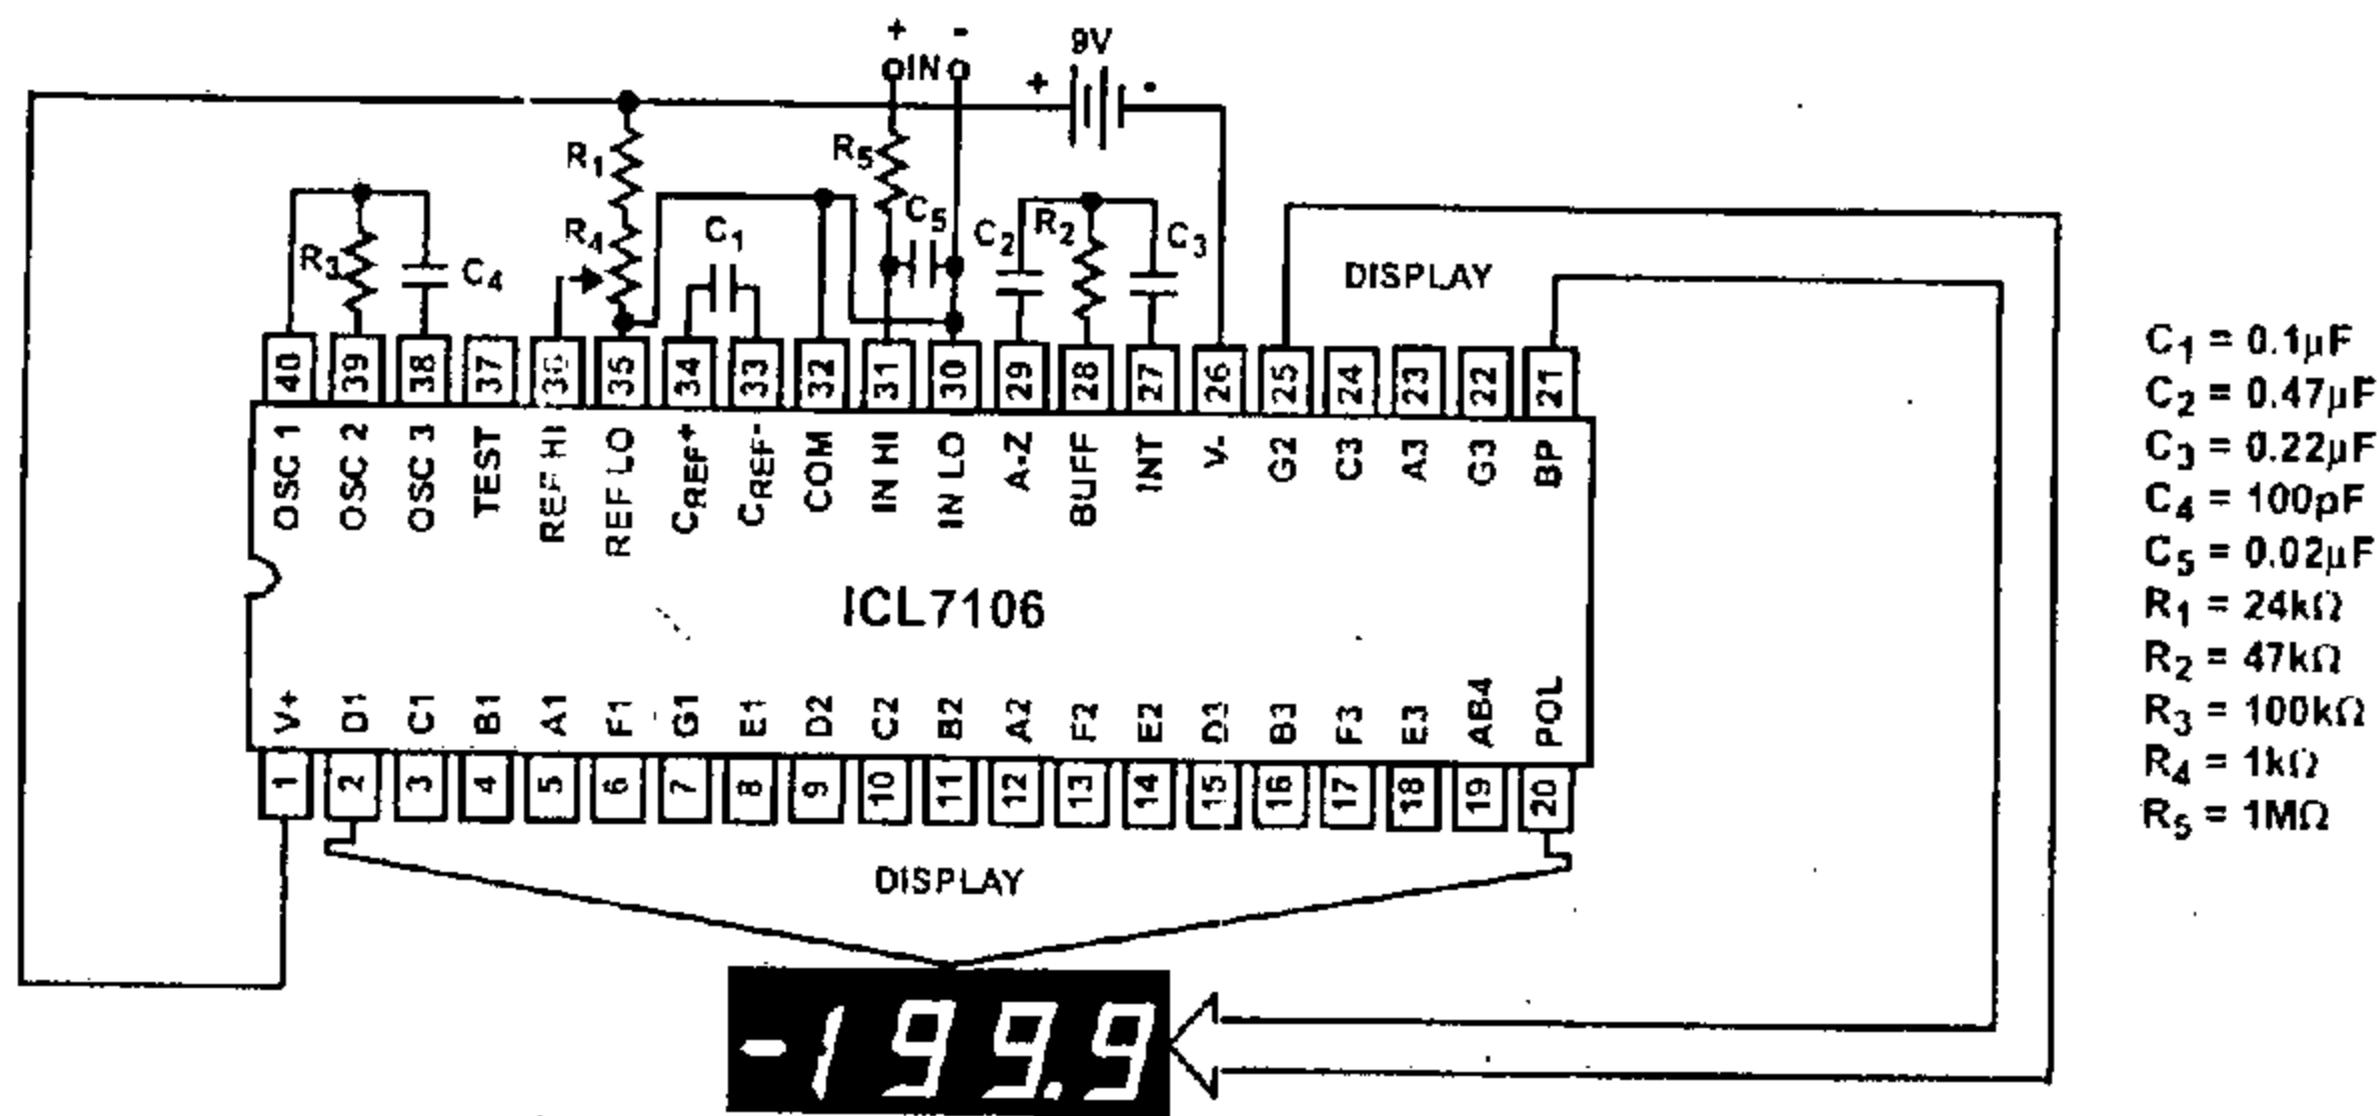
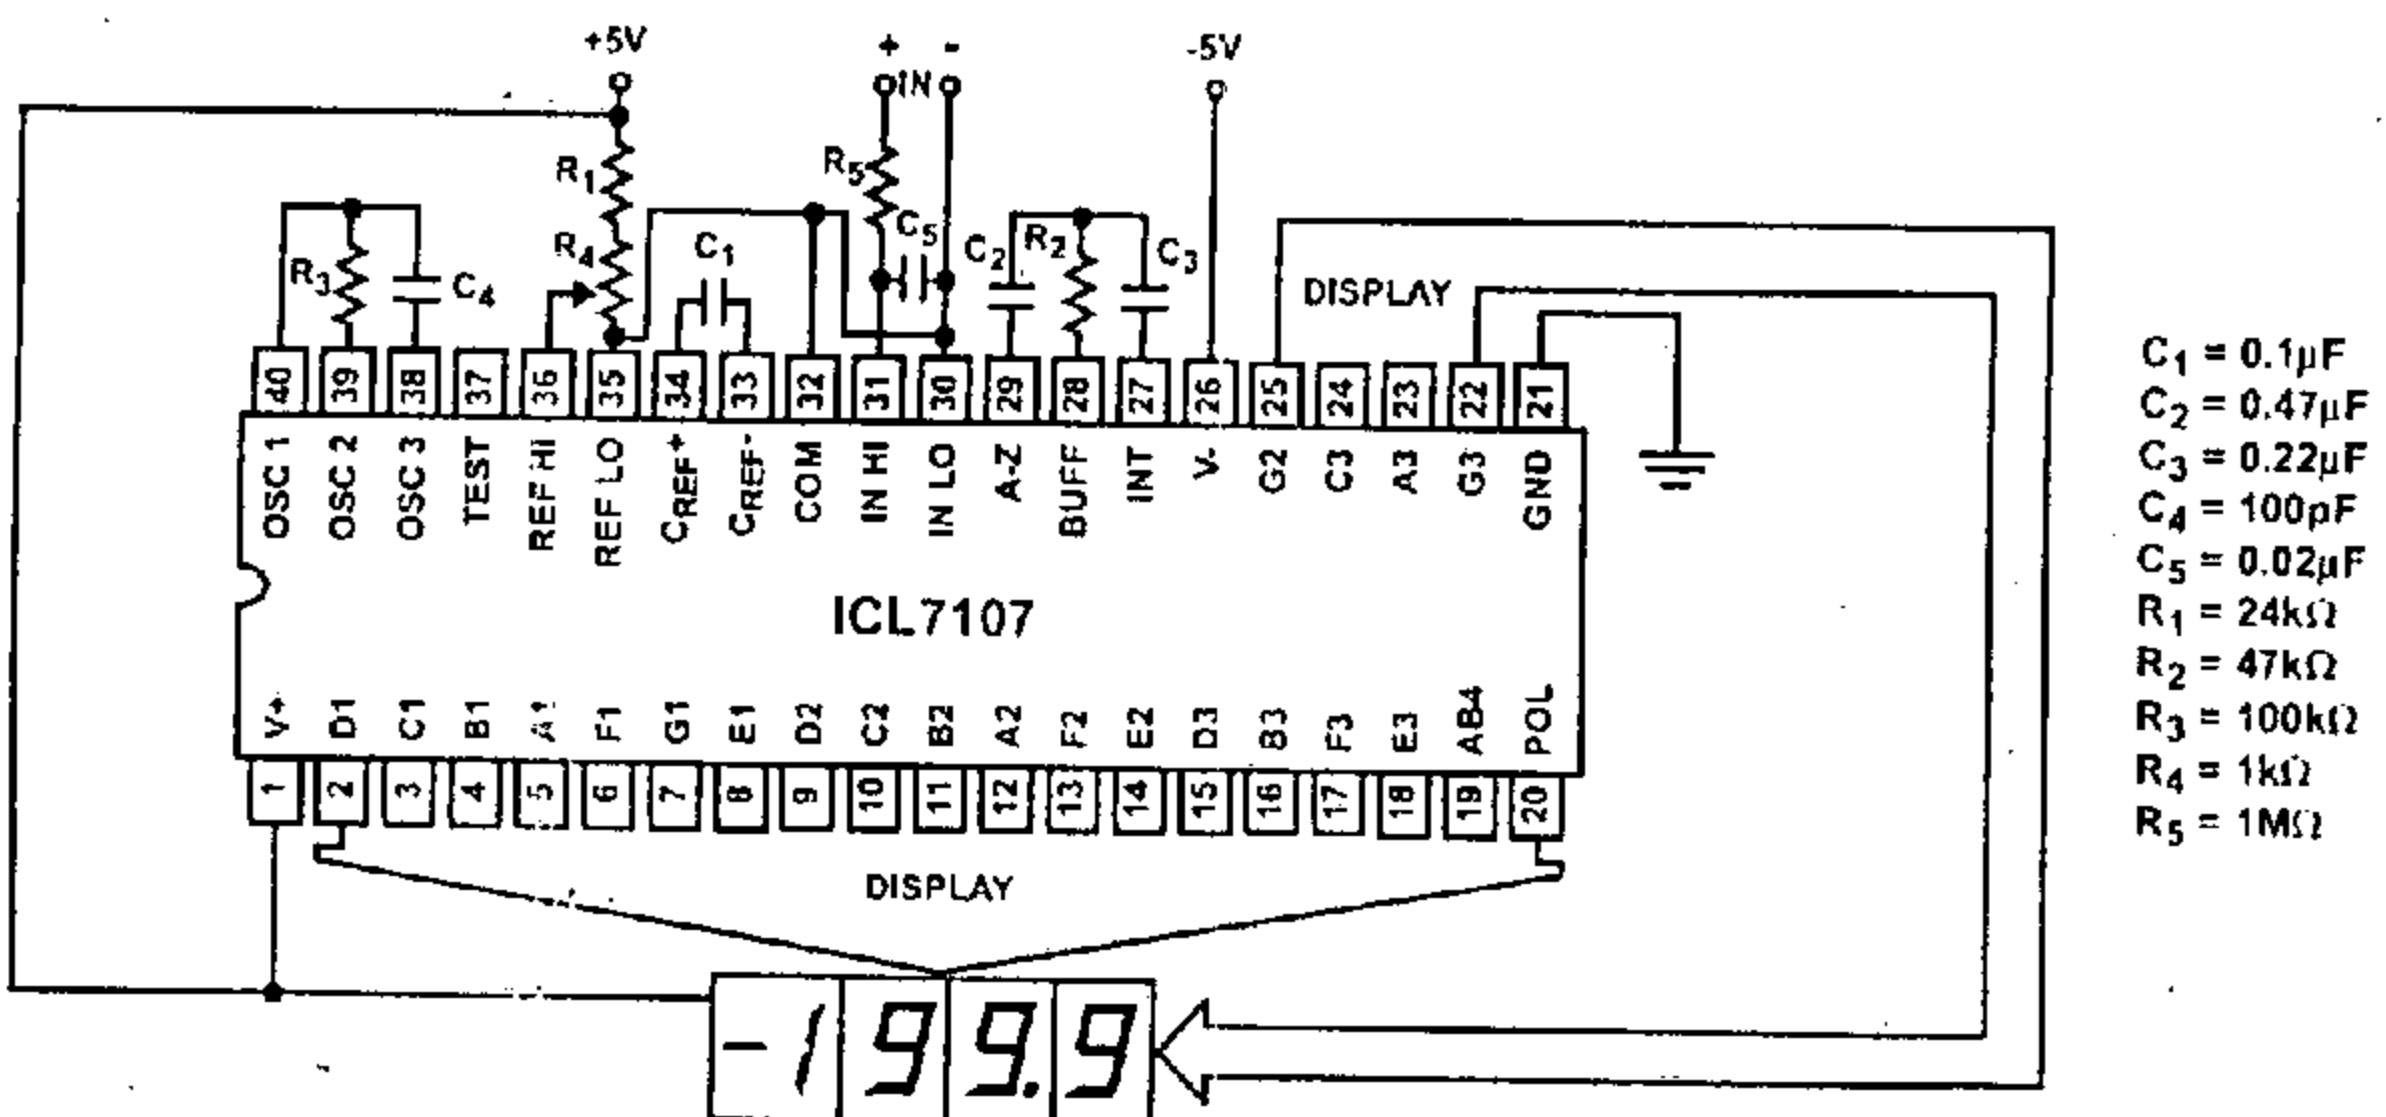

FIGURE 1. ICL7106 TEST CIRCUIT AND TYPICAL APPLICATION WITH LCD DISPLAY COMPONENTS SELECTED FOR 200mV FULL SCALE
FIGURE 2. ICL7107 TEST CIRCUIT AND TYPICAL APPLICATION WITH LED DISPLAY COMPONENTS SELECTED FOR 200mV FULL SCALE
4. Unless otherwise noted, specifications apply to both the ICL7106 and ICL7107 at TA = 25°C, fCLOCK = 48kHz. ICL7106 is tested in the circuit of Figure 1. ICL7107 is tested in the circuit of Figure 2.